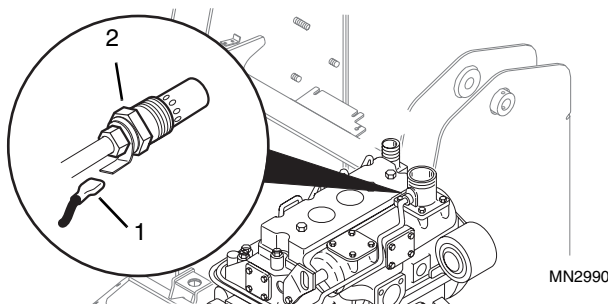

Figure 10-93 Thermo Start Plug
24. Connect white/brown wire #4 (Fig. 10-93, 1) to the thermo start plug (2).